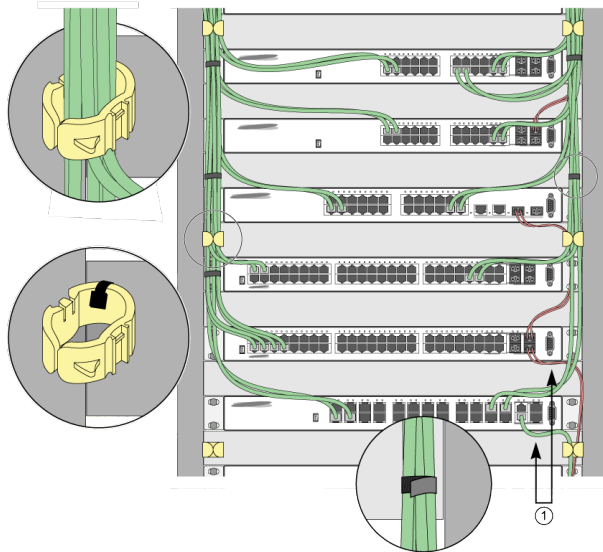

Figure 30: Properly Installed and Bundled Cable
- Provide enough slack, approximately 5 to 7.5 cm (2 to 3 in), to provide proper strain relief as shown in Figure 30 on page 59.
- When installing a patch panel using twisted pair wiring, untwist no more than 2.5 cm (1 in) of the cable to avoid radio frequency (RF) interference.